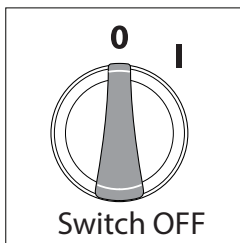
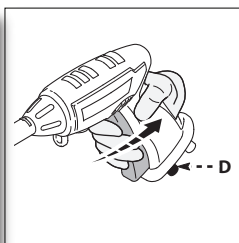

Fig. 5
Fig. 6
- To lock the trigger of the spray gun, make sure power is off (O) (Fig. 5) aim the spray gun away from you and push the lock button up, (Fig. 6) after doing so, squeeze or pull the trigger to make sure it is locked and will not move. Get in the habit of leaving the lock button in the “locked” position when the power washer is not in use. This ensures the gun is in “safe” mode until it is ready for use.